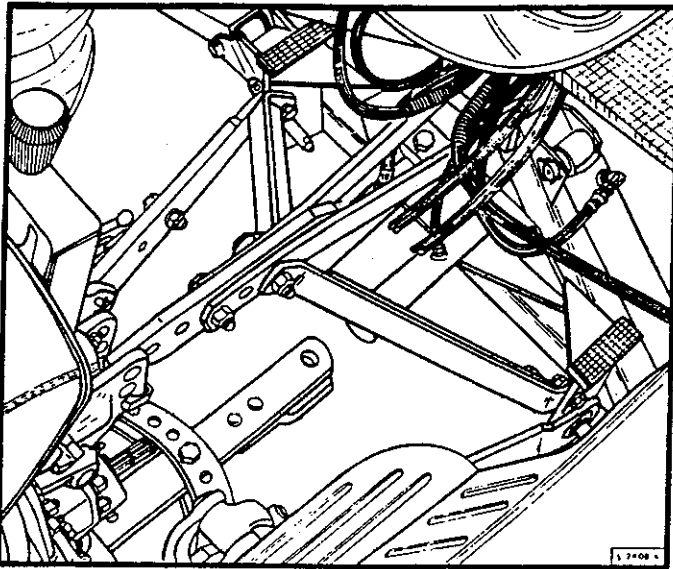

Fig. 2 — Mounting Backhoes to Three-Point Hitch.
The 3-point hitch mounted Backhoe can be installed on a variety of tractors by using the adjustment features of the Rigid Mount. With Figures 2, 3, and 4 as a guide, perform the following steps:
2. Attach lower 3-point hitch bars to the pins on the Backhoe frame as in Figures 2 & 3.
5. Bolt upper linkage bars (2) to upper hitch point on Backhoe's frame.